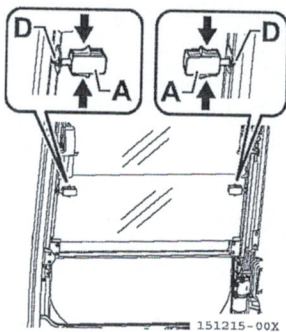

Fig. 2-92
2. Lift the lower windshield up while pulling it inward and align the height of the lock pins on the lower windshield with that of the lock pin holes (Fig. 2-92, D) in the frame of the upper windshield.
3. After aligning their height, turn the window lock levers (Fig. 2-92, A) downward and insert the lock pins into the lock pin holes (Fig. 2-92, D) to secure the lower windshield.